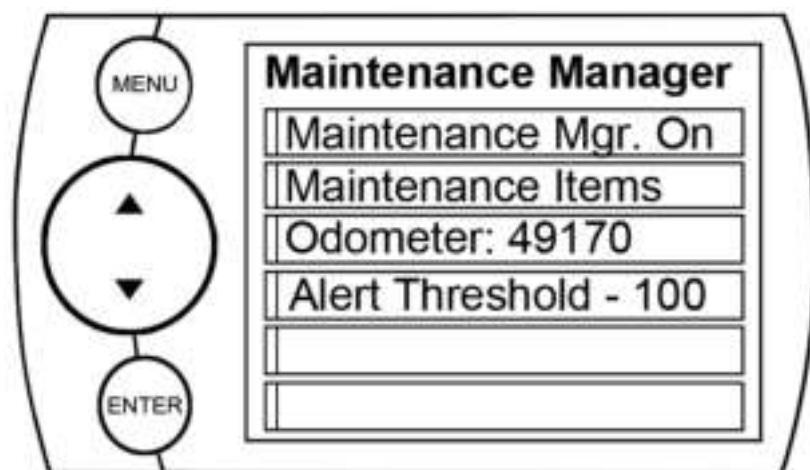

Figure 13
6. Once all digits have been entered, the Maintenance Manager screen will reappear showing your entered value. (See example in Figure 13. A value of 49,170 was entered).